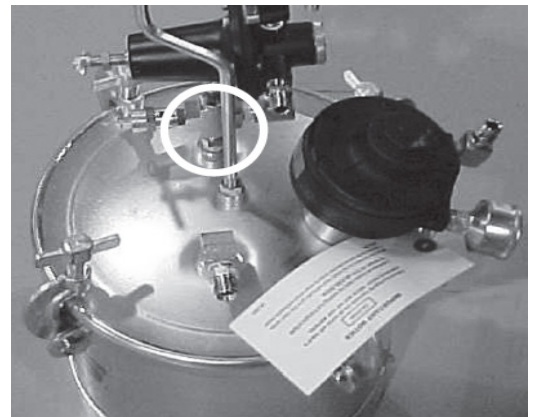

Figure 3
2. Assemble either the single or double regulator to the manifold with a 11/16 wrench as shown in Figure 3.